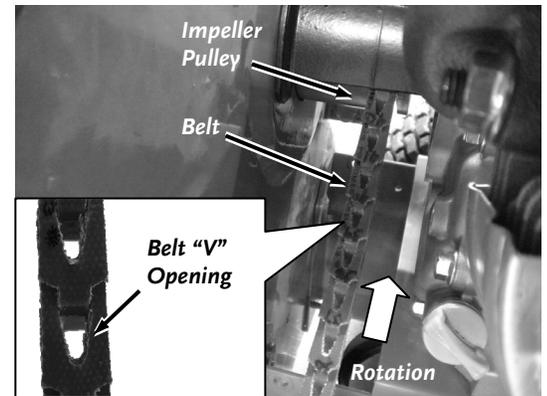

Figure 49
10. Route the New Linked Belt on to the Impeller Pulley with the “V” opening facing away from you (**Figure 49**).